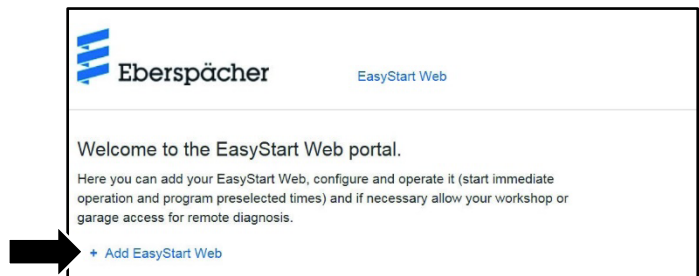

Figure 7
7. Click “+ Add EasyStart Web” (refer to Figure 7).